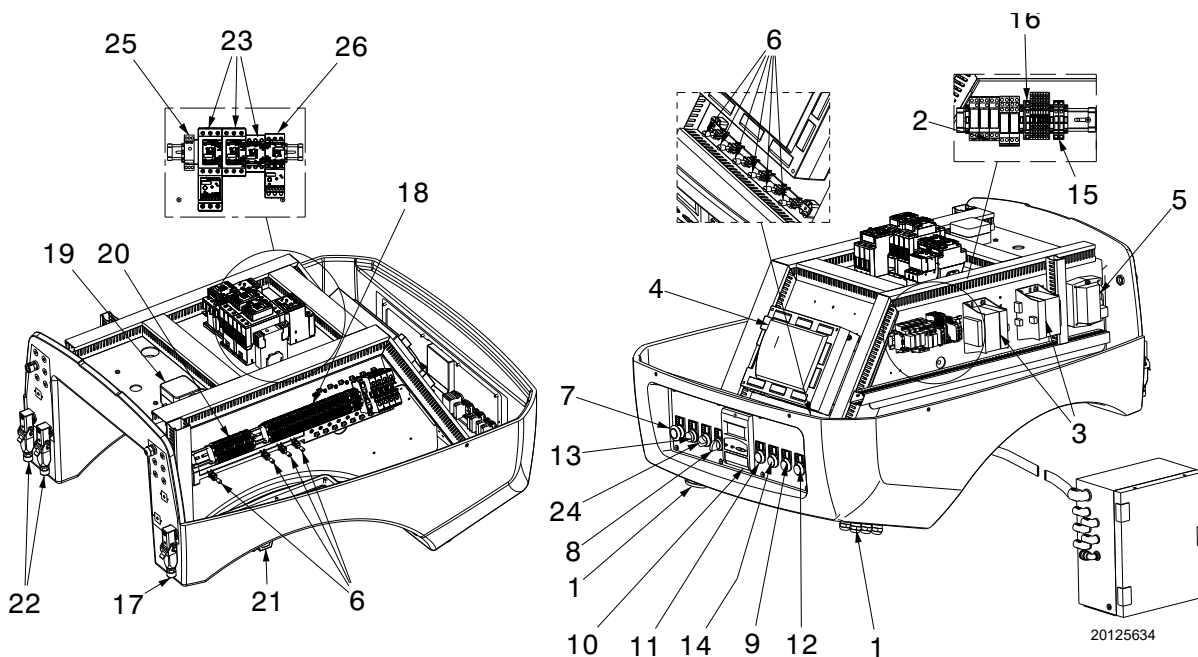

Fig. 5
- **flame control lockout:** the switching on of the button (red led) 13)(Fig. 5) signals that the burner is in lockout. Release by pressing button 13)(Fig. 5) or use the display.